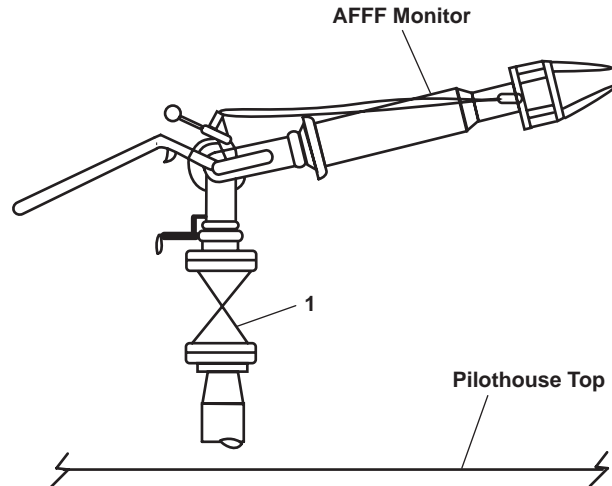

Figure 3. Fire Monitor
- f. FM-60, FM-61, and FM-62, COV AFFF MON (figure 3, item 1)